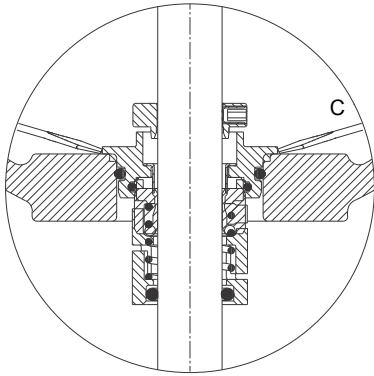

Fig. 1 Removing upper shaft seal
5. Remove screws (pos. 58a) and retainer (pos. 58).
7. Slacken the socket screws (pos. 113) of the upper shaft seal (pos. 105a).
8. Carefully press upper shaft seal (pos. 105a) out of the secondary pump head (pos. 2) using two slot screwdrivers, and pull it off the shaft. See fig. 1.